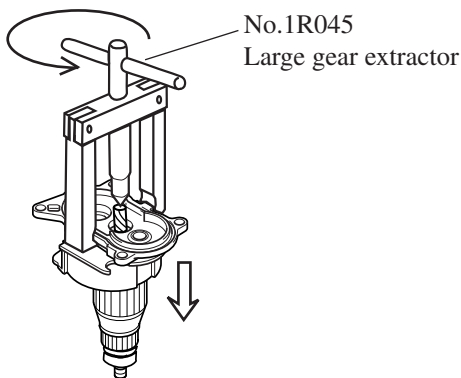

Fig. 14
(7) Disassemble armature from gear housing with No.1R045 "large gear extractor" as illustrated in Fig. 14.